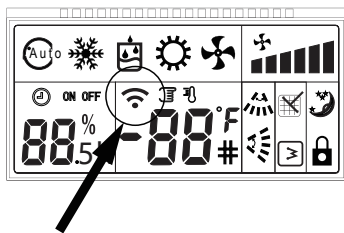

Figure4 The WiFi icon flashes
- 1) After the wired controller is powered on, press and hold “  ” for 3 seconds, and the “  ” will flash, as shown in Figure 4.